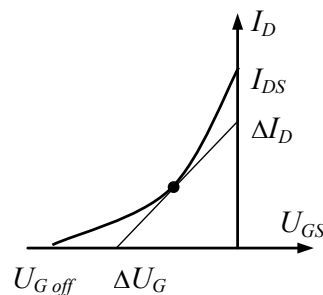

Fig. 1.34
**Input characteristic.** The input curve of a JFET, presented in Fig. 1.34, is a trace of the drain current  $I_D$  versus gate voltage  $U_G$ . It is the graphical solution of the following equation: